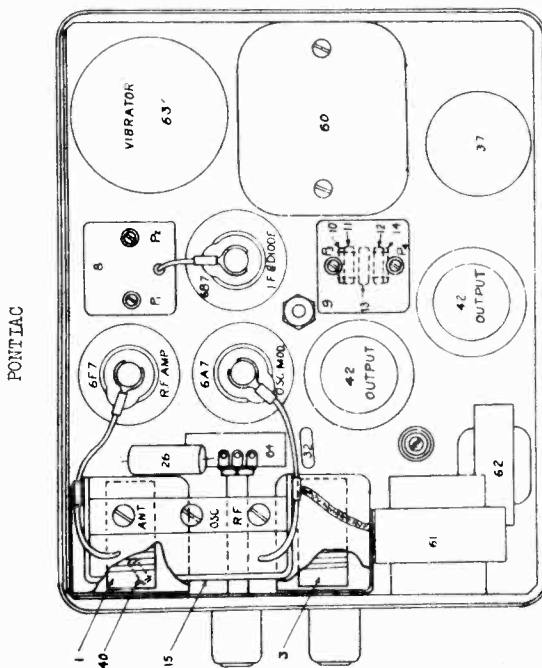

FIGURE 2--PARTS LAYOUT--Top View
- (f) Set signal generator and receiver dial to approximately 2.5 megacycles--then while rocking gang condenser back and forth adjust 2.5 megacycle oscillator padder condenser, Illus. #9 (Fig. 2) for maximum sensitivity.
- (f) Adjust 600 kilocycle oscillator padder condenser, Illus. #8 (Fig. 2) while rocking tuning condenser back and forth for maximum 600 kilocycle signal response.
- (e) Adjust the 2nd I-F trimmers (Illus. 9, Fig. 2) and then the 1st I-F trimmers (Illus. 8, Fig. 2) for maximum output. This operation should be repeated until no further increase in output is obtained.
- (c) Readjust only the parallel trimmers for the "R-F" and ANT. sections of the gang condenser (Fig. 2) for maximum output.